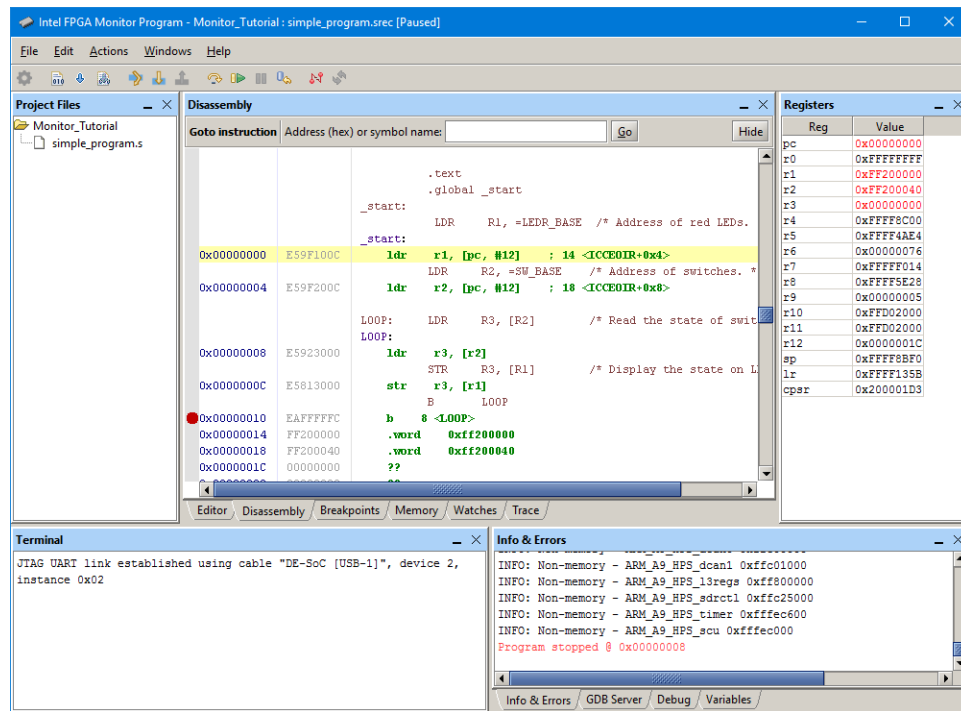

Figure 17. Setting a breakpoint.
2. Click on the gray bar to the left of the address 00000010. As illustrated in Figure 17, the Monitor Program displays a red dot next to the address to show that a breakpoint has been set. Clicking the same location again removes the breakpoint.